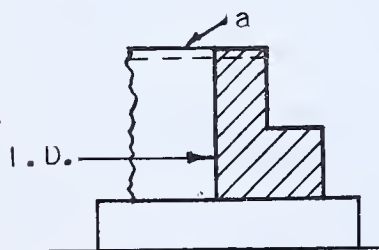

FIG. 215 — Steps 1 and 3
Place the wide side down and on parallels as shown in Fig. 215.
3. Set the tool and take a 1/8" roughing cut across the work as shown at *a* in Fig. 215.